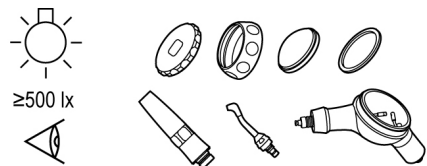

Fig. 25
7. Under appropriate lighting (500 lx or higher), inspect the products for contamination (Fig. 25).